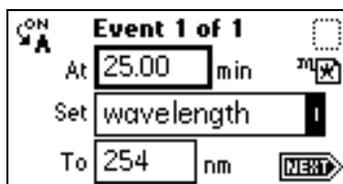

Figure 3-21 Timed Events Screen
3. Enter the time for the event. When you begin entering the time, additional fields are displayed (Figure 3-21).